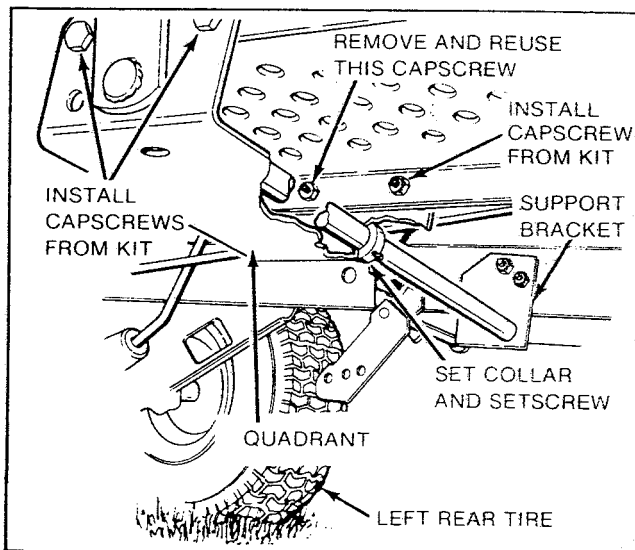

Figure 4. Installing Lift Lever & Quadrant
4. Remove the capscREW, lockwasher, and nut (see Figure 4) which attach footrest to frame.
5. Slide the end of the lift lever shaft thru the support bracket and position the quadrant as shown in Figure 4. Attach the quadrant to the footrest and frame with one existing capscREW, lockwasher and nut and one capscREW, lockwasher, and nut from kit. Attach quadrant to outside edge of footrest with two capscREWS, lockwashers, and nuts from kit.